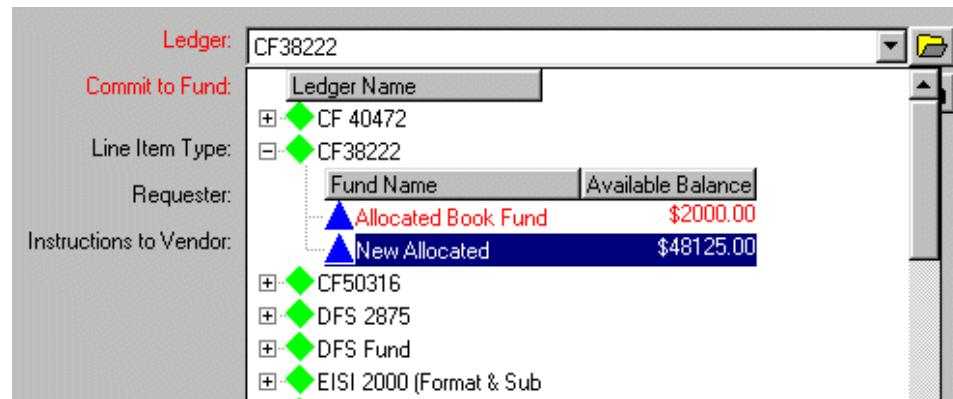

Figure 6-68. Ledger/Fund hierarchy displayed in the Ledger field
- If you want to select a fund from the ledger/fund hierarchy (Figure 6-68) rather than typing the fund code into the **Commit to Fund** field, click the **folder** button beside the **Ledger** field. This displays a hierarchy of available ledgers and funds. To aid you in selecting an appropriate fund, each fund's available balance displays within the hierarchy.